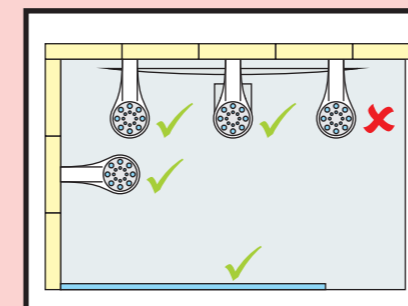

Fig 1 - Walk in Front Panel
Step 2) using a sheet of marine plywood with a minimum thickness of 12mm mark the trays perimeter and waste hole. Fit all waste services before securing your plywood to your joists. (For sizing please refer to Fig 1 on opposite page)